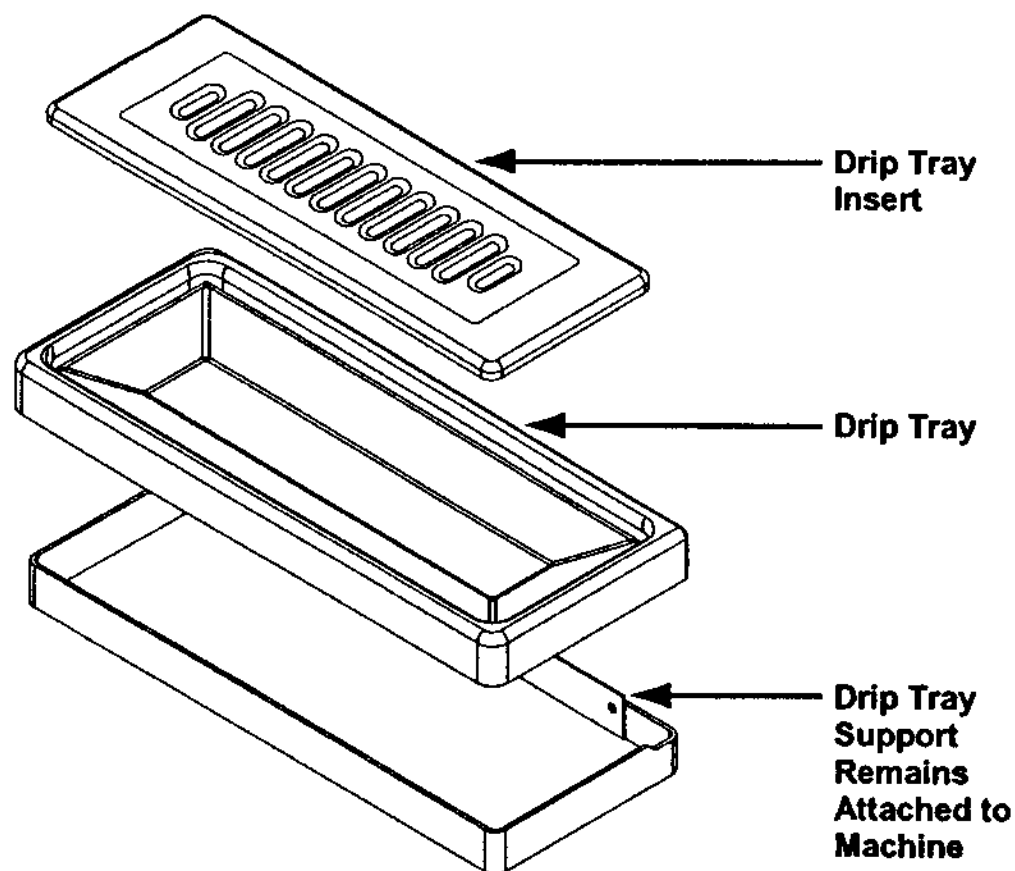

Fig. 11
8. Remove the mix pan lid (See Exploded View), drip tray and drip tray insert (Fig. 11).